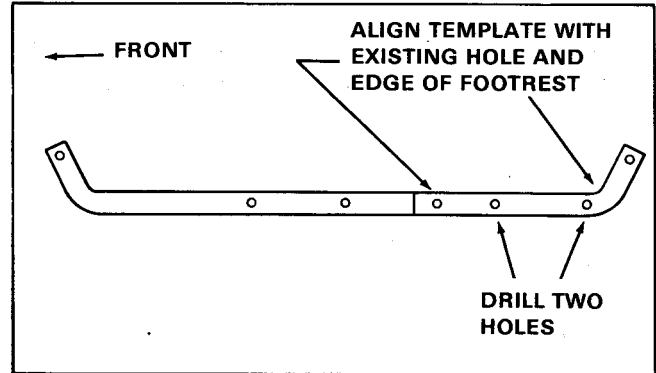

Figure 5. Align Template "B"
3. Position template "B" on the left side of the footrest (opposite holes drilled in step 2) as shown in figure 5. Mark the position of the new holes with a punch and remove the template. Drill two 11/32" dia. holes.